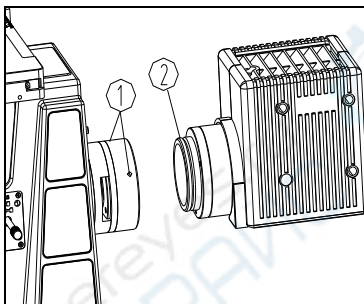

Fig. 4
(1) Loose the lock-screw ①. (Fig.4)
(2) Put the lamp house ② into connect holder and lock ①.